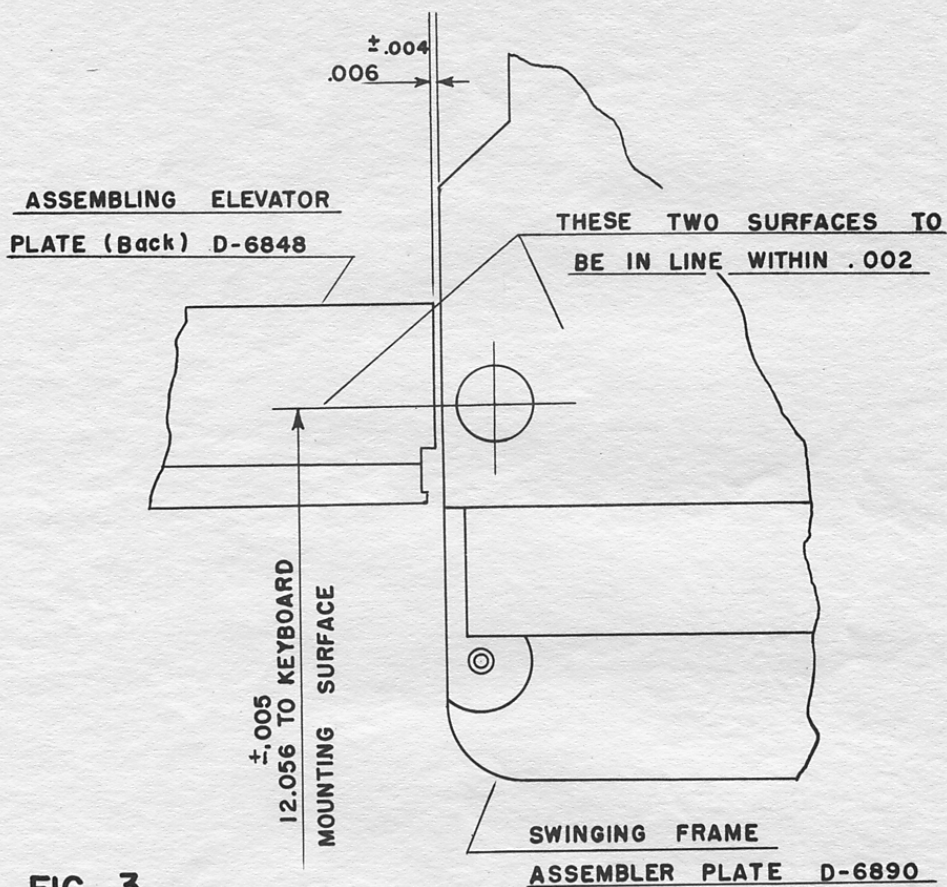

FIG. 3
- c. Check the relation of the assembling elevator to the swinging front to assure that it is in proper alignment and that it has proper clearance as per Fig. 3. If the assembling elevator is out too far, it will interfere with the travel of the matrices. Also, if clearance is excessive, difficulties with thin matrices will be encountered.